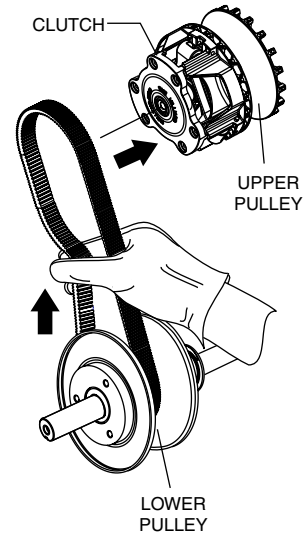

Figure 32. Upper Pulley Belt Installation
2. Place free end of CVT belt into upper pulley grooves. See Figure 32.